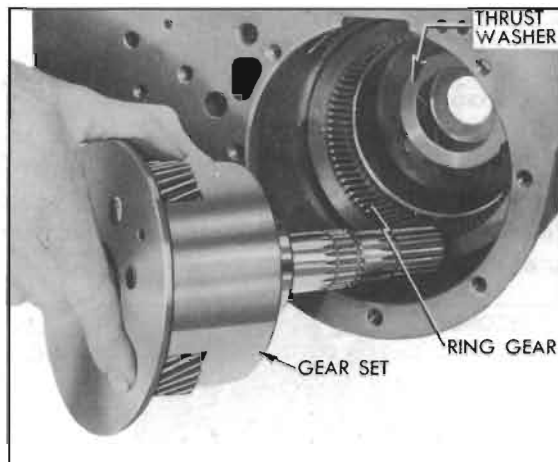

Figure 4-90—Removing Planetary Gear Set
1. Remove planetary gear set through front of case. See figure 4-90.